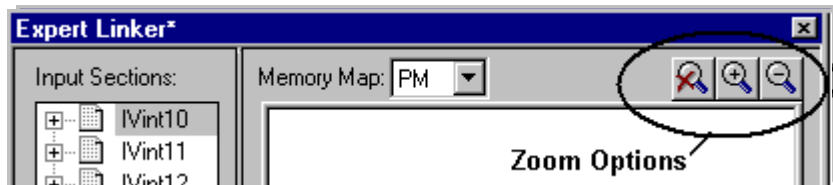

Figure 3-23. Memory Map – Zoom Options
- To enable post-link view from the **Memory Map** pane, right-click and choose **View and Link Results (Post-Link)**. Figure 3-23 on page 3-31 illustrates memory map after linking.